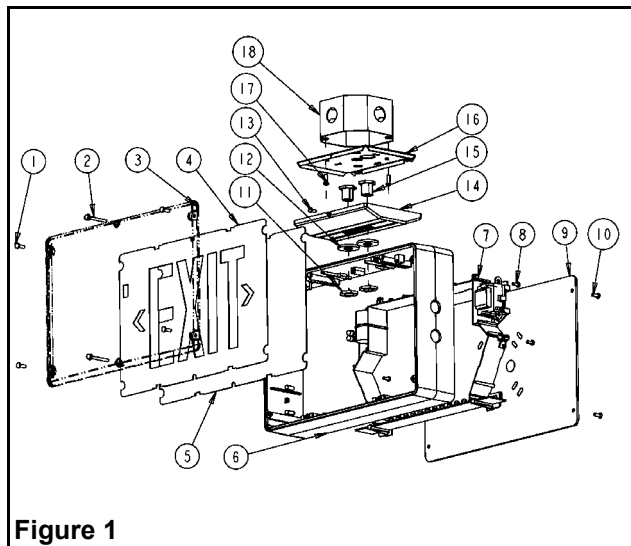
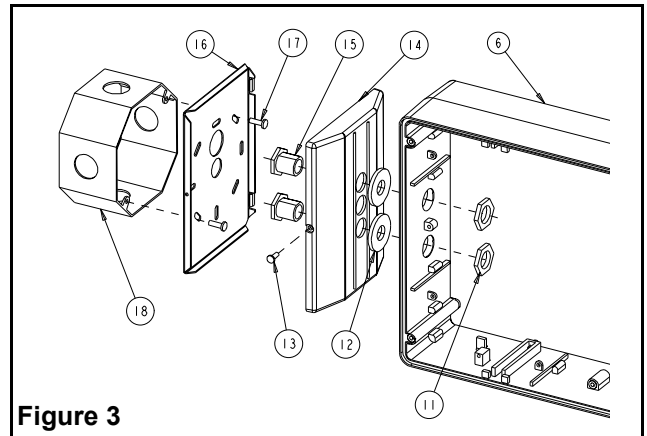

Figure 1
Figure 3
- e. Make sure the securement screw is accessible (see fig.1 part # 13). Use existing screws in junction box to secure canopy backplate to the junction box.
- h. Determine which holes in the exit frame will be used for mounting (see fig.1 & fig.3). Support frame by two blocks of wood, maximum one inch apart. Strike knockouts with a hammer and screwdriver. Clear holes of burrs to allow proper assembly of nipple/wire assembly.
- i. Secure canopy to the frame using the provided nipple/wire assembly. Make sure the gasket washers are between the canopy and frame, and the nuts inside the exit sign (see fig. 3).